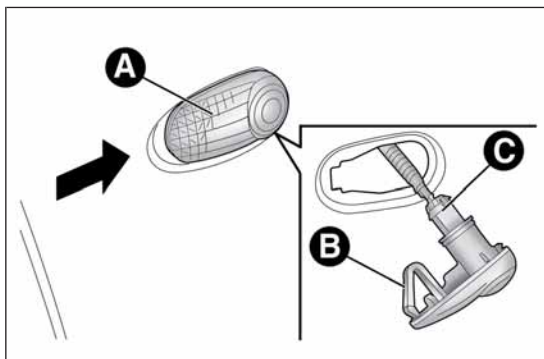

fig. 136
- ☐ operate lens A fig. 136 in order to compress clip B, then pull the unit outwards;